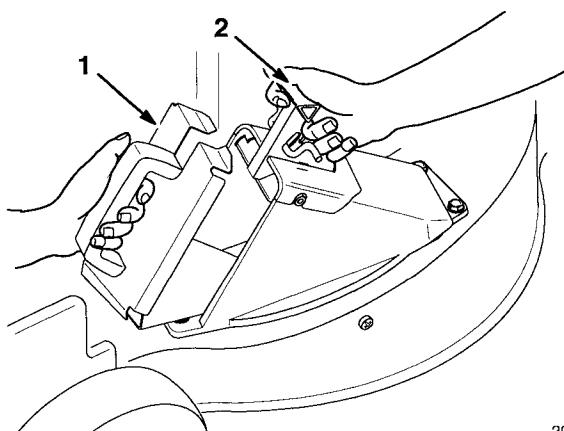

Figure 3
1. Make sure engine is turned off. Open discharge door by moving handle rearward (Fig. 3). Hold the discharge door fully open while inserting the plug.